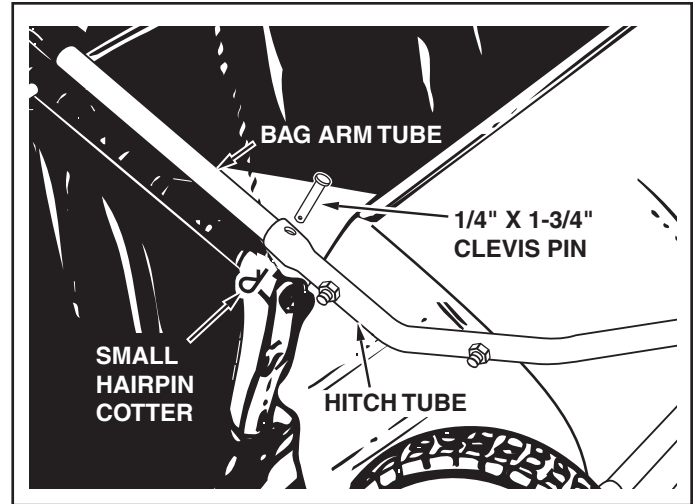

FIGURE 21
- To attach the hopper bag to the sweeper, slide the ends of the bag arm tubes into the ends of the hitch tubes and secure with two 1/4" x 1-3/4" clevis pins and small hairpin cotters. See figure 21.